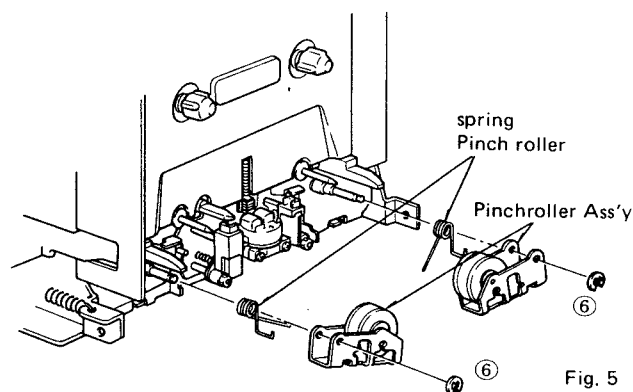

Fig. 5
(1) Replacement of pinch roller Ass'y
- Remove the Ering (⑥) in fig. 5.